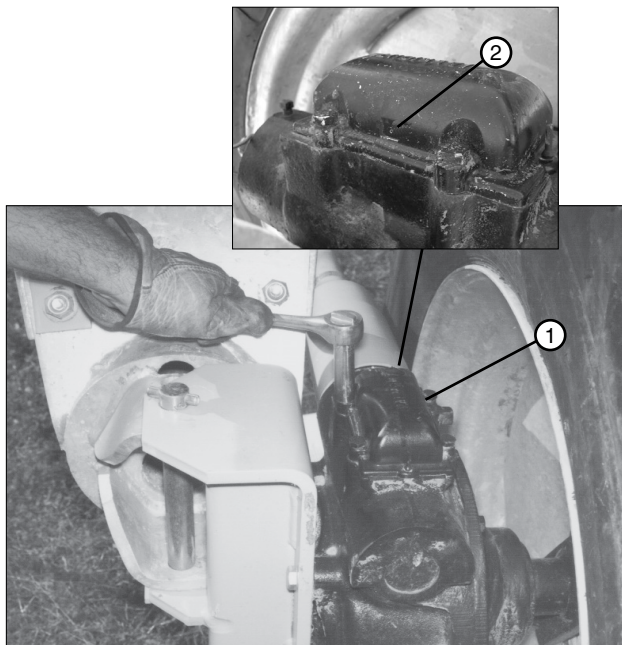

Figure 74-2 1. Expansion Chamber Cap
5. Clean all of the dirt away from the expansion chamber cap and remove the expansion chamber cap. Do not allow dirt to fall into the gearbox when removing the cap. See Figure 74-2.